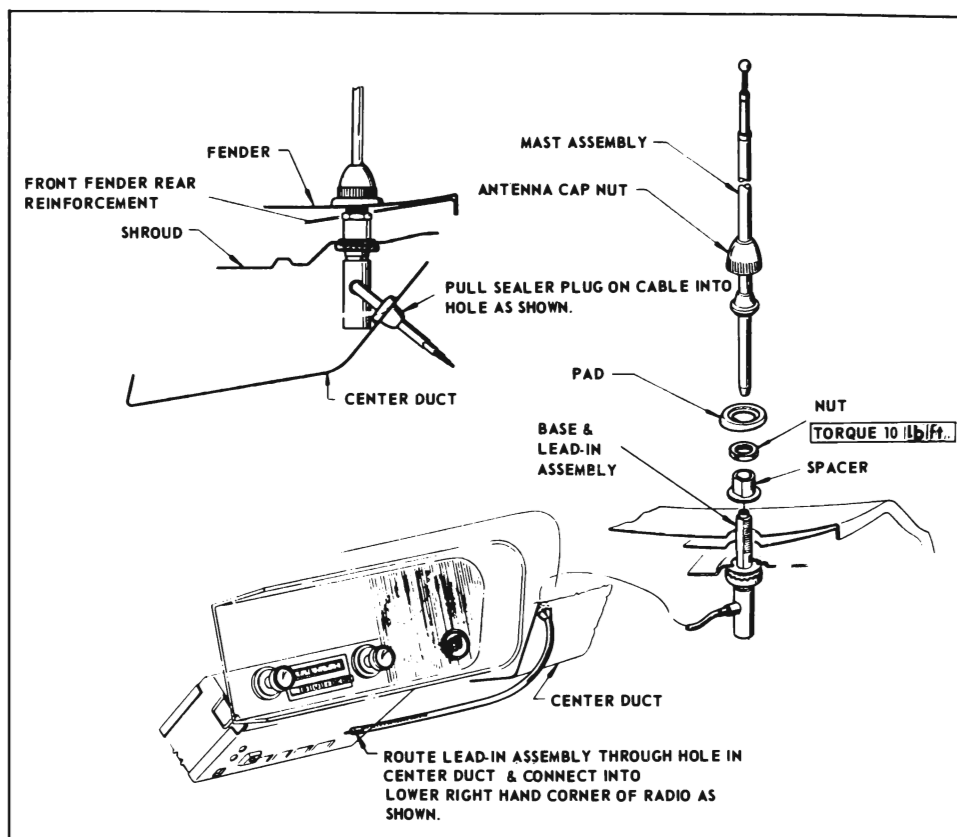

Figure 11-5—Antenna Installation
1. Unscrew antenna cap nut (see Figure 11-5) and lift mast assembly out of base and lead-in assembly. Remove pad.